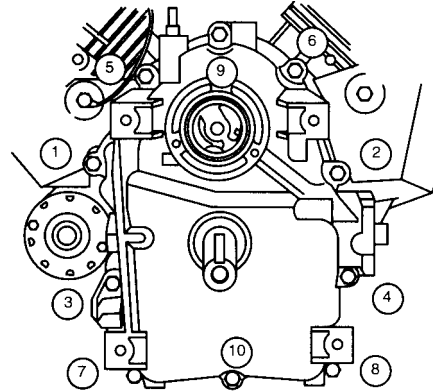

Fig. 6 - Installing Crankcase Cover
- a. Torque screws in sequence shown to 200 in. lbs. (22.6 Nm), Fig. 6.